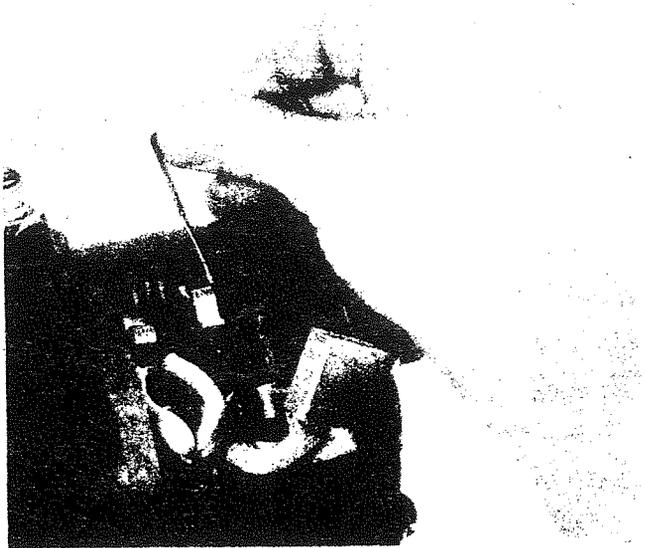

Figure 31
- 15.2 Using the tool shown in figure 31, pull the inside brush holder spring up and insert the brush in the slot. Repeat this step to install the outer brush.
**CAUTION:** Insure that the brush leads are routed as shown in figure 31.